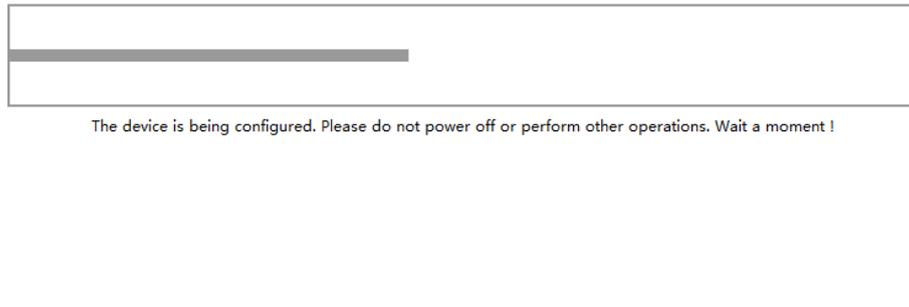

Figure 2-27 The waiting interface diagram after the user modifies the address
- DNS: The IP address of the DNS server. When the device uses a static IP address, the user is required to fill in this item. If a specific DNS server is not used, the default gateway IP address is generally sufficient. Whenever users modify the address settings, they need to click the button to submit to the Mport series serial server and switch to a waiting page as shown in Figure 2-27.